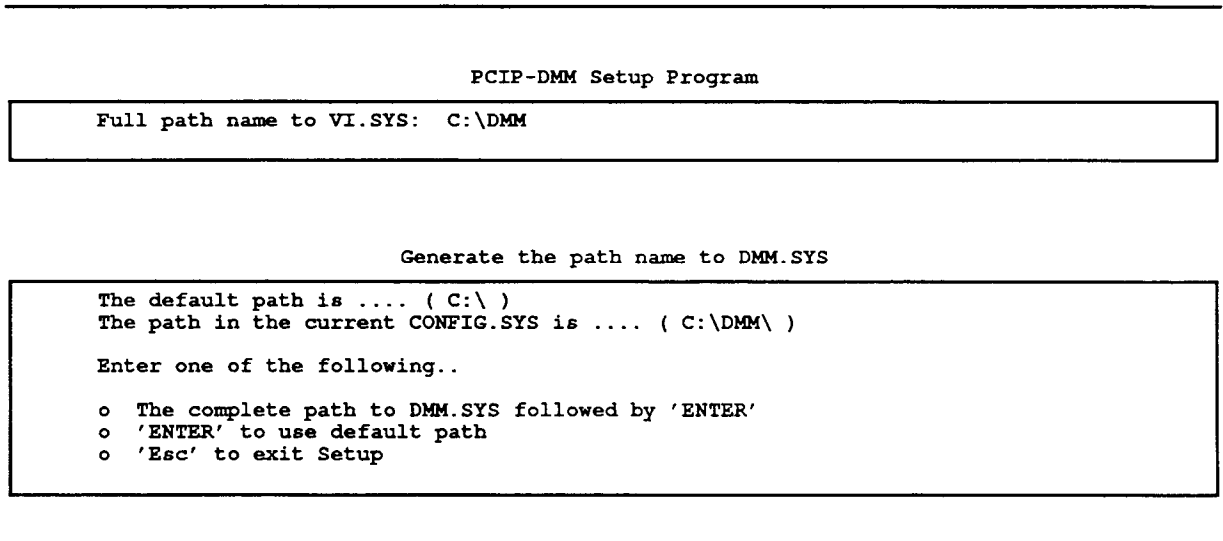

Figure 3-9. Generating the DMM.SYS Path
5. Next, the program will ask you for the information required to setup the PCIP-DMM/A driver. It first prompts you for the path name to the file *DMM.SYS*. (See Figure 3-9.)